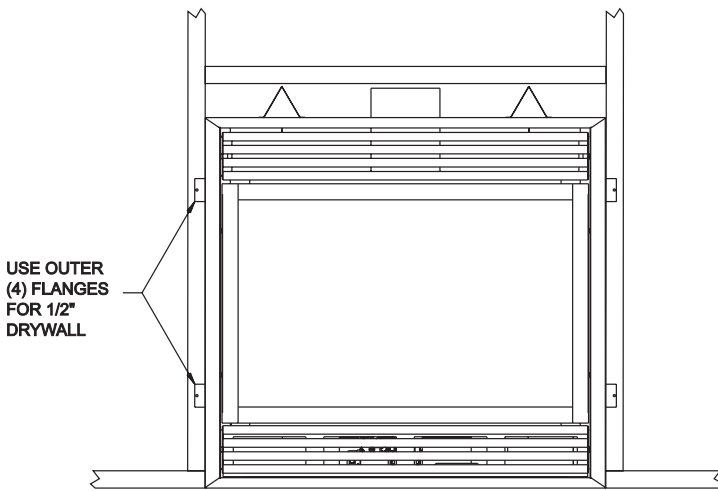
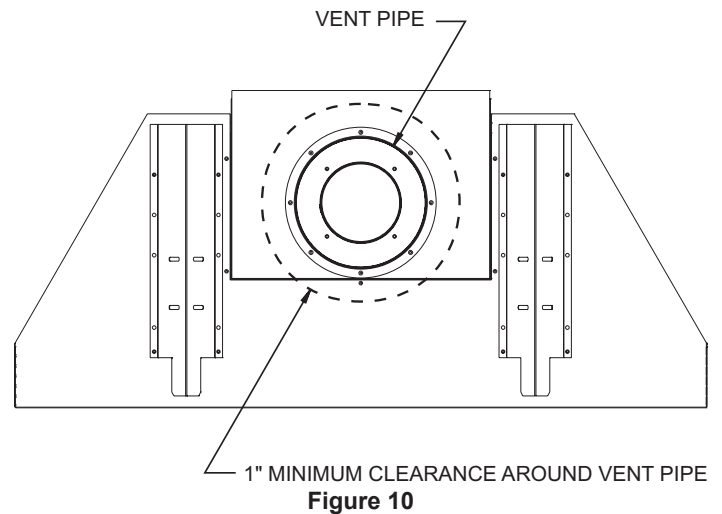

Figure 9
Figure 10
**Note:** Maintain one inch (1") of clearance around vertical vent pipe. **See Fig. 9.** For horizontal vent, maintain a minimum 1" clearance to the bottom and sides of the vent, and 3" clearance to combustibles above the vent pipe. **See Figure 10.**